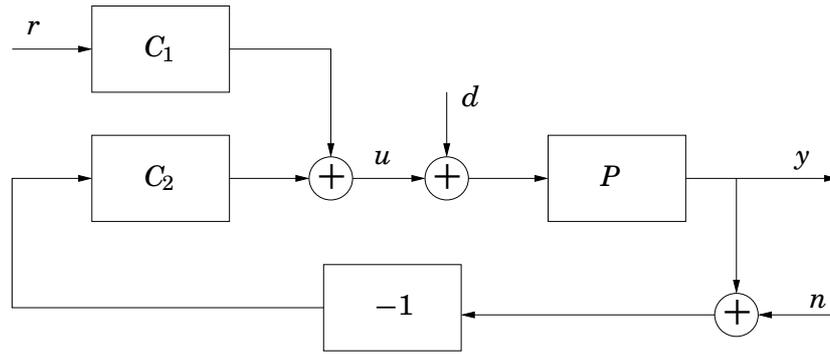
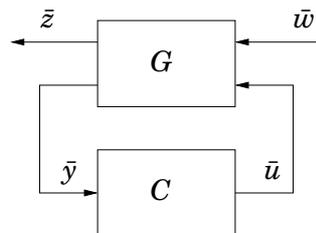
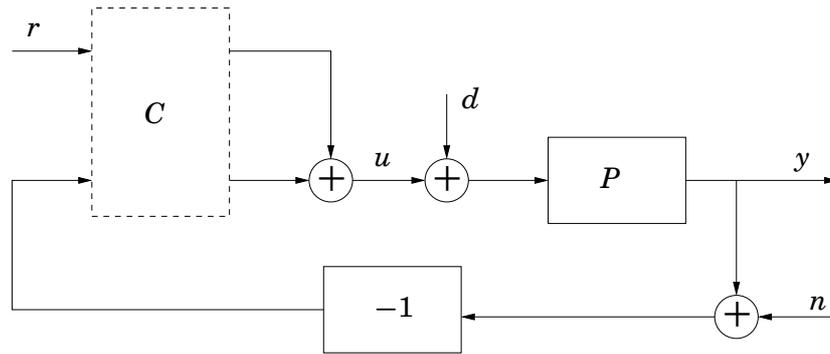

Figure 4 2-DOF control setup in problem 7
Figure 5 Generalized plant in problem 7
Figure 6 Setup in problem 7 with controller removed
7. Consider the 2-DOF control setup in Figure 4. P is the plant and C_1 and C_2 are the control blocks to be designed. The objective is to make the control error $e = r - y$ small without making the control effort u too large.
- a.** What is the relation between the signals in the generalized plant depicted in Figure 5 and the signals in Figure 4? (1 p)
- b.** Derive the transfer function G in Figure 5. (2 p)
- b.** To derive G , remove the control blocks in Figure 4 (see Figure 6). We see that